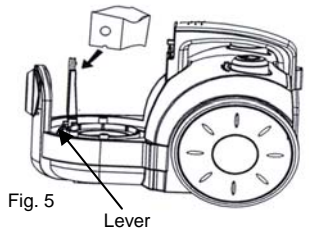

Fig. 5
4. Ensure that the cardboard face of bag rests securely in place. You will see the lever lock into place. (Fig. 5)